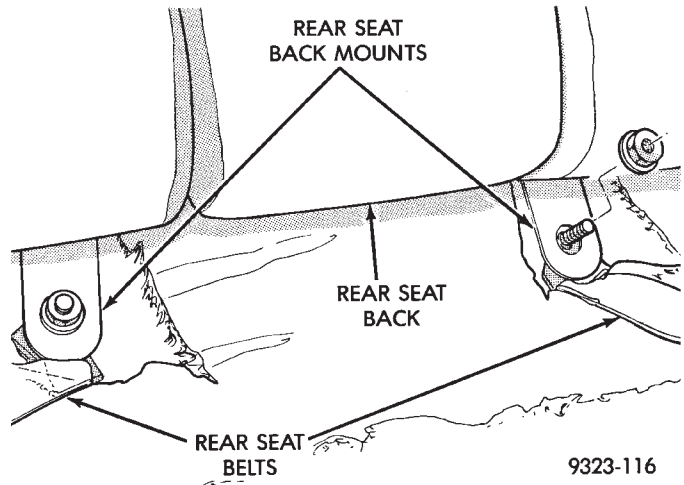

Fig. 5 Rear Seat Back
- (1) Remove rear seat cushion.
- (2) Remove nuts holding rear seat back and belts to floor (Fig. 5).
- (3) Push rear seat back upward to disengage hooks at top of seat back.
- (4) Separate rear seat from vehicle.